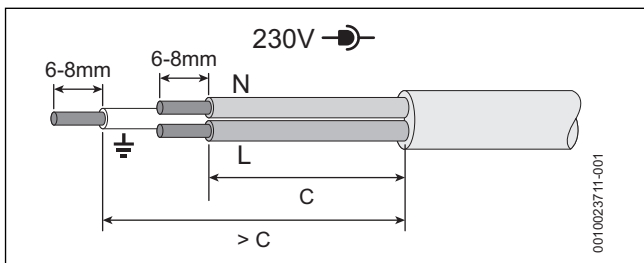

Fig. 55 Mains voltage (power cables) preparation
**Mains voltage (power cables), example → figure 55**
- ▶ Ensure the conductors (C) can reach the appropriate terminal connection and that the protective (earth) conductor is longer than the other wires.